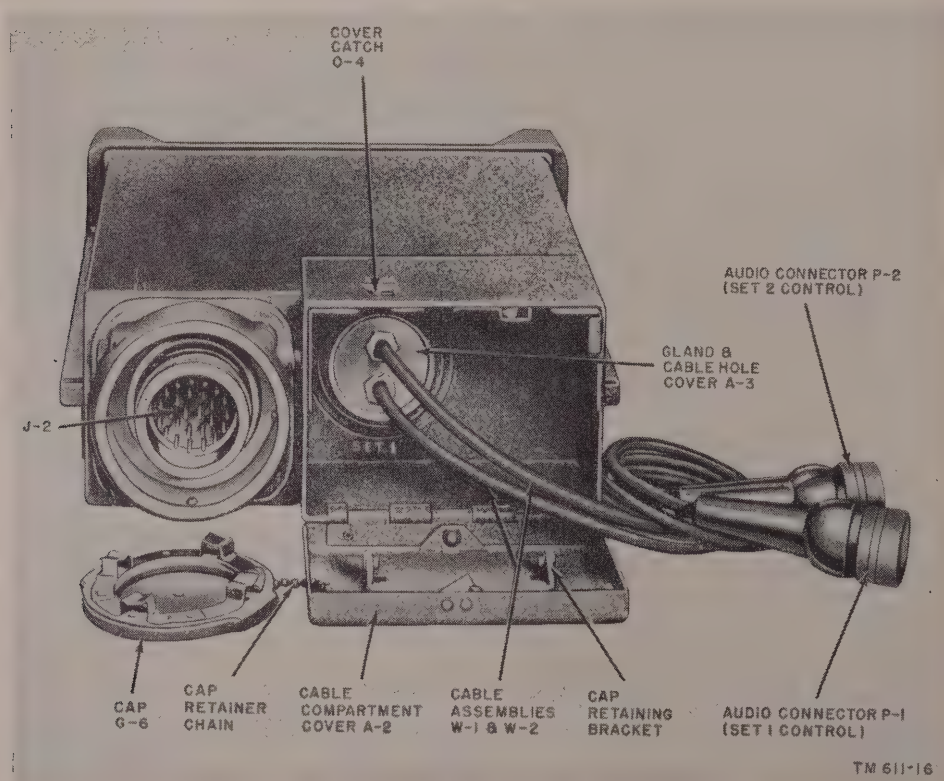

Figure 29. Local Control C-434/GRC, rear view.
- (4) Replace the compartment cover making certain that the batteries make contact with the cover contacts.
- (5) Set the chassis-mounted switch (S-1) to the BELL position.
- (6) Replace the panel-chassis assembly in the case.
- (7) Connect the local control to the AUDIO receptacles on the receiver-transmitter and auxiliary receiver by means of the Set 1 and Set 2 cables in the cable compartment at the rear of the unit (fig. 29). Connect the Set 1 cable to the receiver-transmitter and the Set 2 cable to the auxiliary receiver.